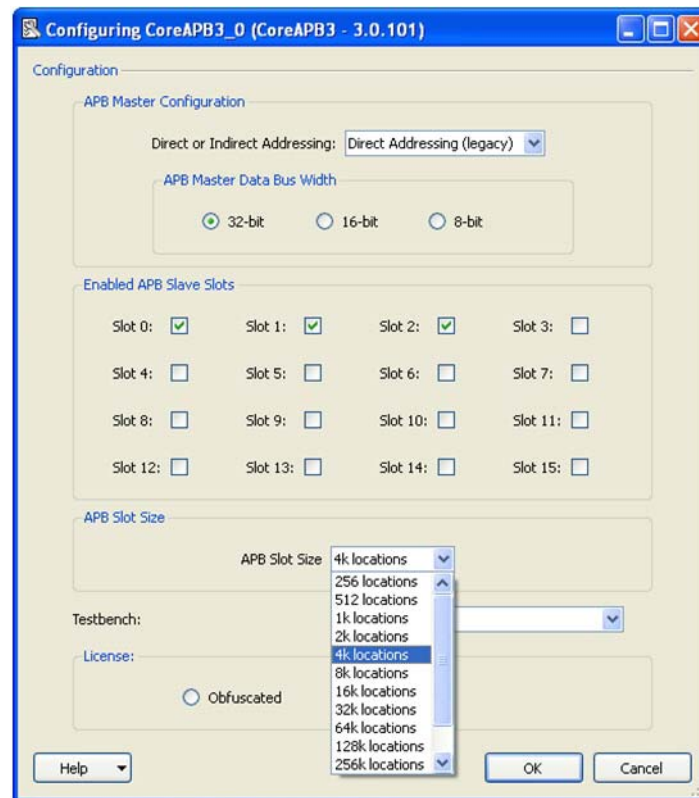

Figure 1-5 · Select the APB Slot Size
- Select the APB slot size as 4KB or below as shown in Figure 1-5. Assuming that you have selected 64KB slot sizes for CoreAHBLite, then the maximum size of the slots on CoreAPB3 (16 slots) is 64KB/16 = 4KB when going through CoreAHBtoAPB3.